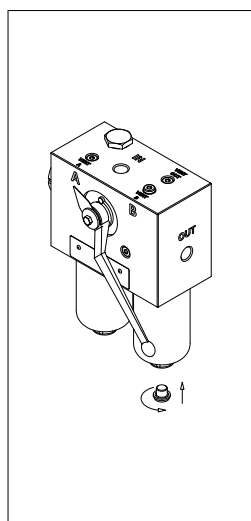

fig. 26
- (Fig. 26) Screw the drain plug in referring to the tightening torque table in paragraph 3